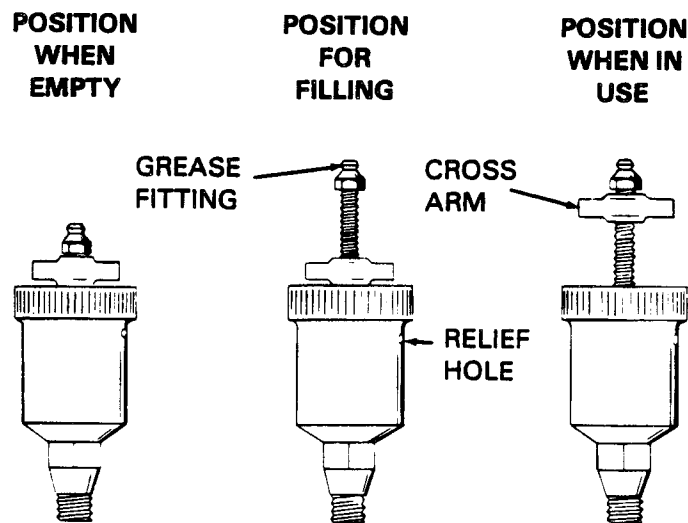

Figure 4. Automatic Lubricating Grease Cup
Before attempting to remove the impeller (2), turn the cross arm on the automatic lubricating grease cup (5) clockwise until it rests against the cover (see Figure 4). This will prevent the grease in the cup from escaping when the impeller is removed.
Fill the grease cup (5) through the grease fitting with No. 2 lithium base grease until grease escapes from the relief hole. Turn the grease cup arm counterclockwise until it is at the top of the stem; this will release the spring to apply grease to the seal (see Figure 4).